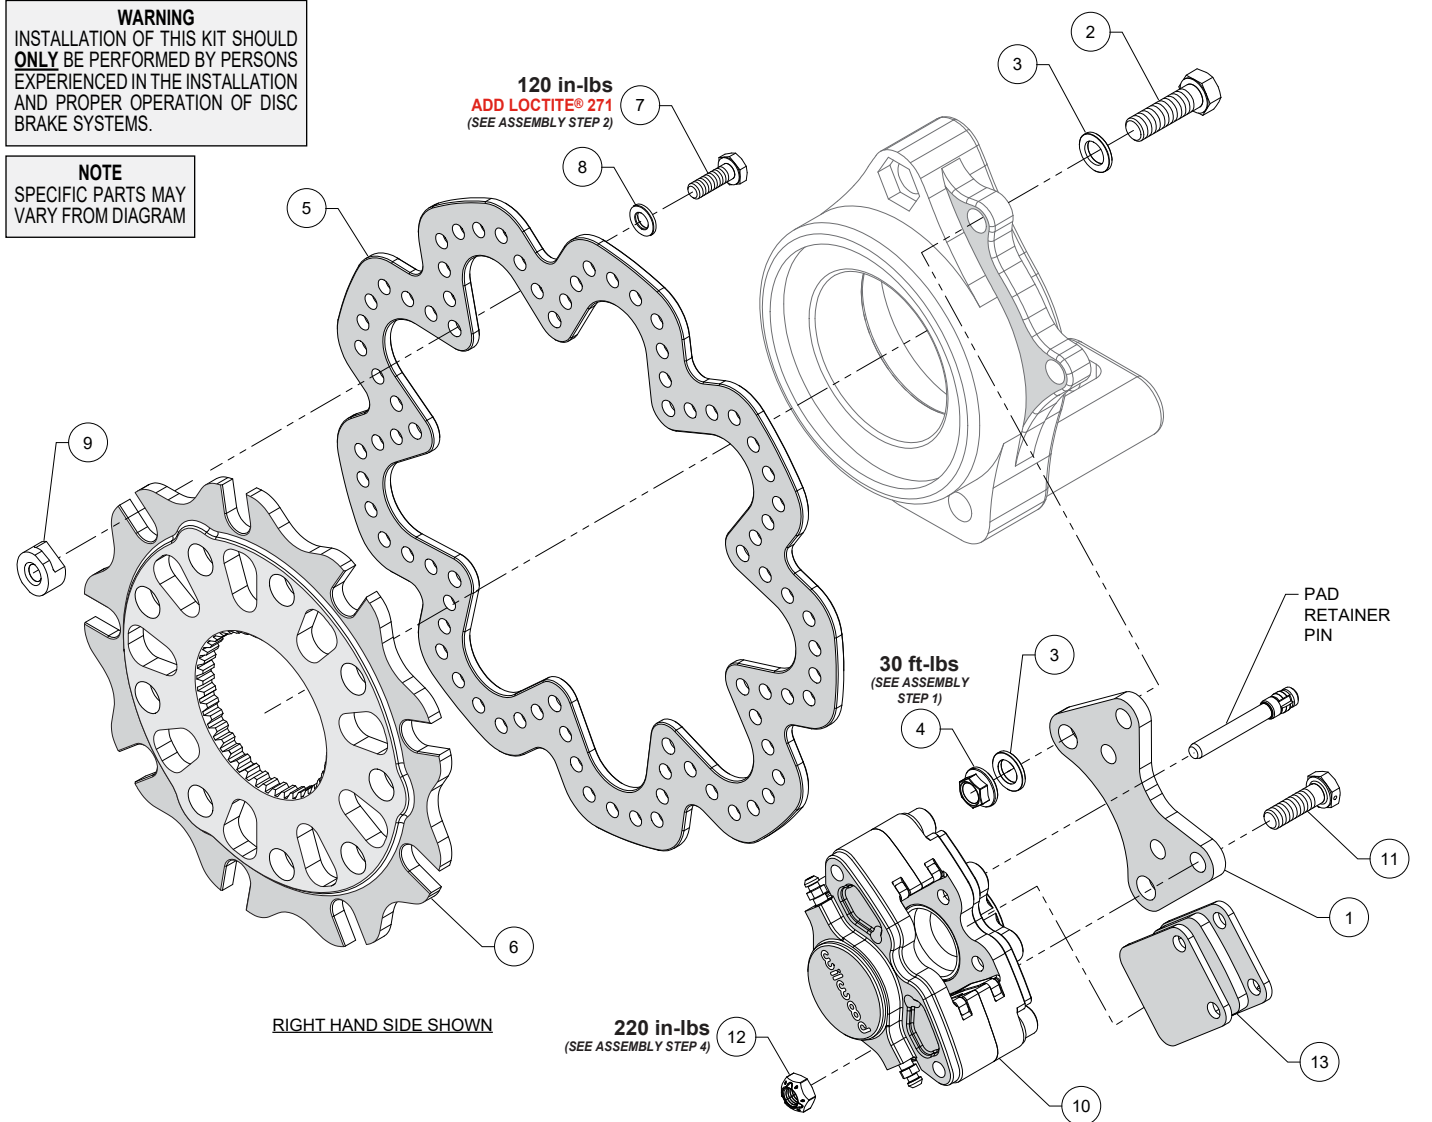

Figure 1. Typical Installation Configuration
**NOTE:** Numbers in parenthesis refer to the parts list and Figure 1 on the preceding page.
**STEP 1** Orient the caliper mount bracket (1) as shown in Figure 1, and install using bolts (2), washers (3), and nuts (4). Temporarily tighten the mounting nuts and bolts. **NOTE:** The bracket must fit squarely against the mount bosses on the birdcage. Inspect for interference from machining ridges, burrs, etc. After the bracket alignment has been checked, torque nuts to value shown in Figure 1.
**STEP 2** Orient the rotor adapter (6) and the rotor (5), as shown in Figure 1, and attach using bolts (7), washers (8), and t-nuts (9). Apply red *Loctite*® 271 to the bolt threads before installing. Finger tighten. After all t-nuts have been installed, torque bolts to value shown in Figure 1 using a criss-cross pattern. Please refer to Wilwood's data sheet DS-669 (available at [www.wilwood.com/Pdf/DataSheets/ds669.pdf](http://www.wilwood.com/Pdf/DataSheets/ds669.pdf)) for complete t-nut bolt kit installation instructions.
**STEP 4** Mount the caliper (10) onto the bracket (1) using bolts (11) and nuts (12) as shown in Figure 1. Torque nuts to value shown in Figure 1.
**STEP 5** Remove the pad pin retainers from the caliper, Figure 1. Slide the brake pads (13) into place. They should install easily without interference. Reinstall the pad pin retainers.